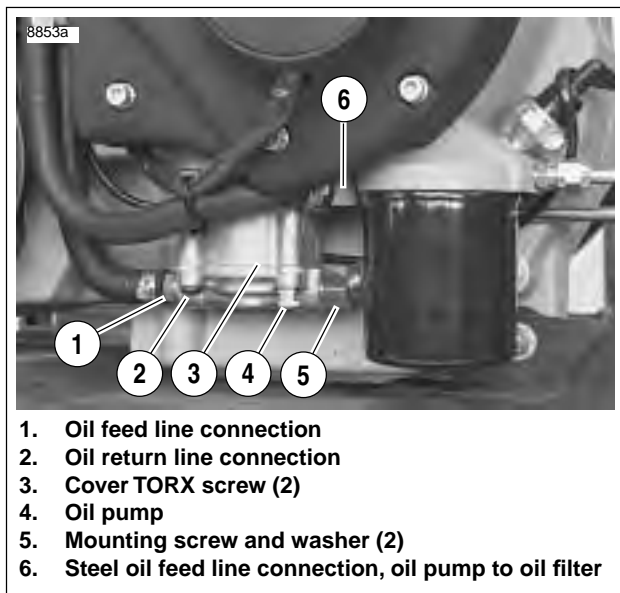

Figure 3-96. Oil Pump Hardware
3. See Figure 3-96. Disconnect feed hose and oil filter hose connection.
6. See Figure 3-96. Remove cover TORX screws. Lift cover off body.
9. See Figure 3-96. Attach return hose connection.